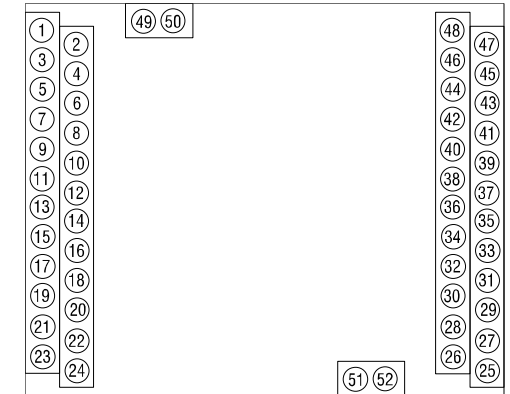

Fig. 3 Layout of terminal blocks
- The layout of terminal blocks is shown in Fig. 3 and the terminal assignments in Table 3